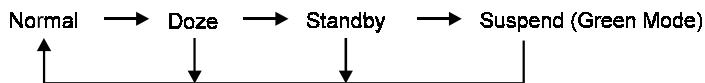

Figure 3-6 Power Saving Mode Flow Chart
- ☞ Note that enabling the Power Management function will result in enabling the HDD Power Down function (Max Saving = 15 min, Min Saving = 1 min). The HDD Power Down function is not part of the Power Management scheme as indicated in Figure 3-6. Refer to the Standby Mode, Suspend Mode, and HDD Power Down descriptions below for more information on hard drive power management.